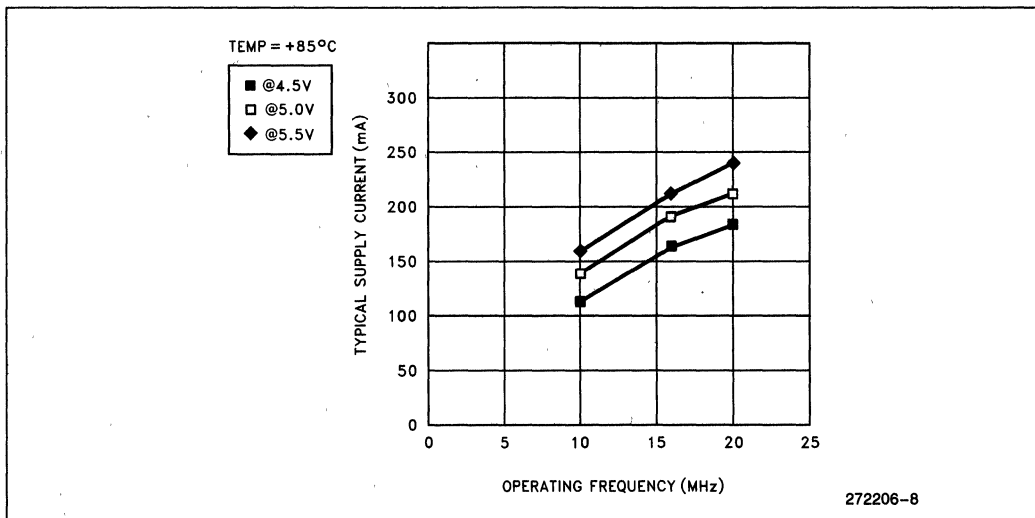
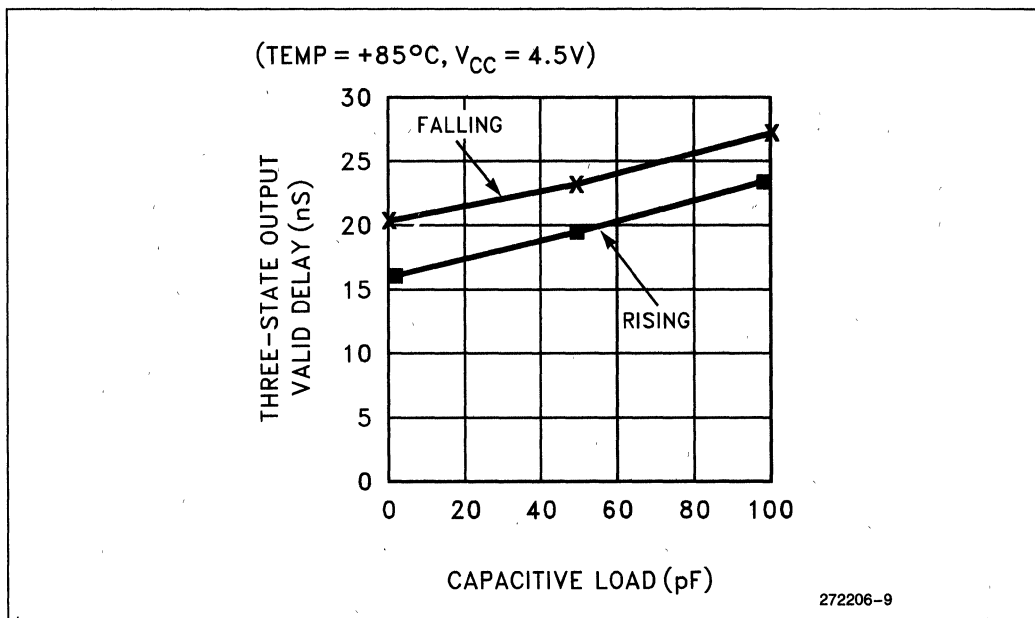

Figure 8. Typical Current vs Frequency (Hot Temp)
Figure 9. Capacitive Derating Curve
For a given output current (I_{OL}) the curve in Figure 8 shows the worst case output low voltage (V_{OL}). Figure 9 shows the typical capacitive derating curve for the 80960SA measured from 1.5V on the system clock (CLK) to 0.8V on the falling edge and 2.0V on the rising edge of the bus address/data (AD) signals.